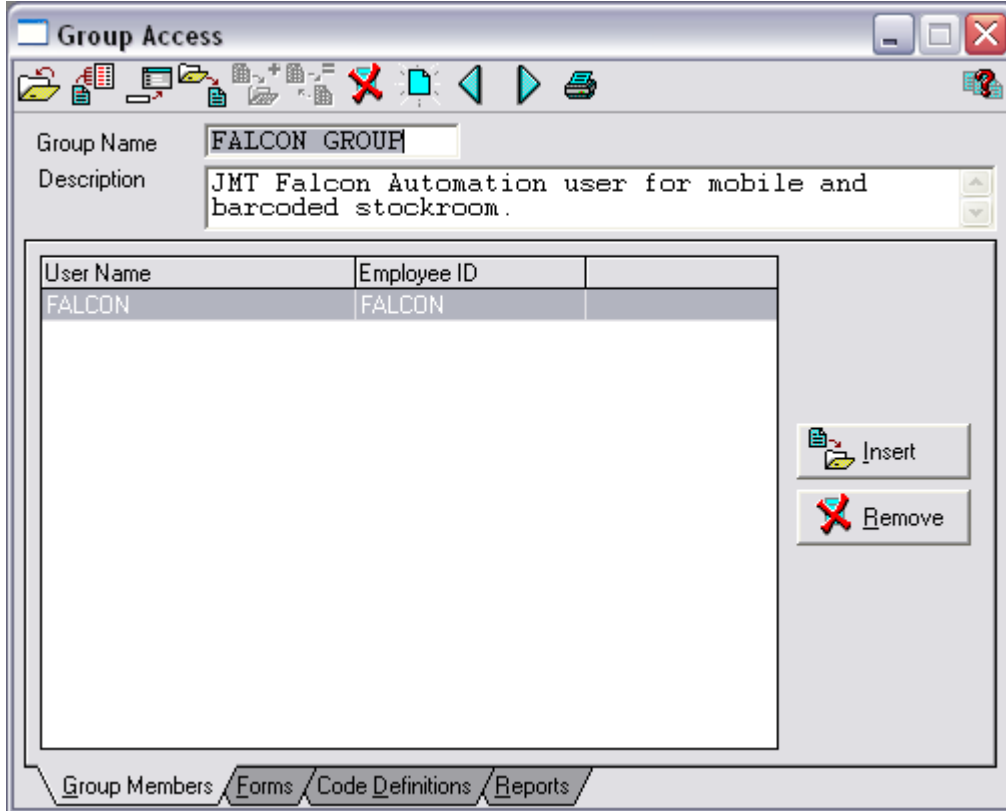

Figure 1 – Falcon group/user setup
- Create a Falcon Access Control Group in Hansen, example shown may differ at your location. Configure as close to the example as possible, JMT will further refine the configuration while onsite: **(See Appendix 1 Figure 1)**